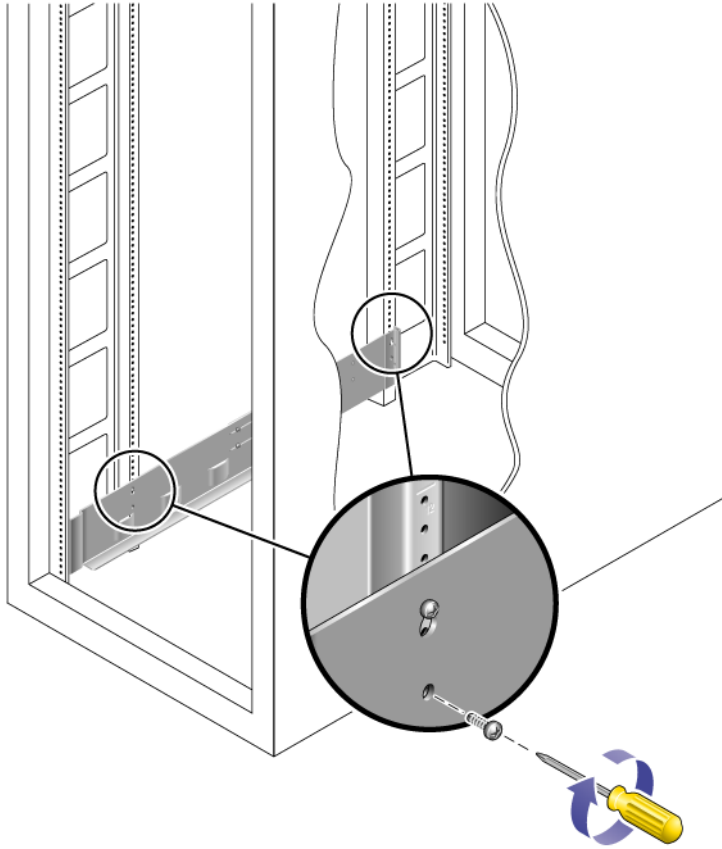

FIGURE 2-22 Inserting Screws in the Lower Side Mounting Holes of the Cabinet
4. Using the #2 Phillips screwdriver, insert two 10-32 screws in the lower side mounting holes for the rail (FIGURE 2-22).